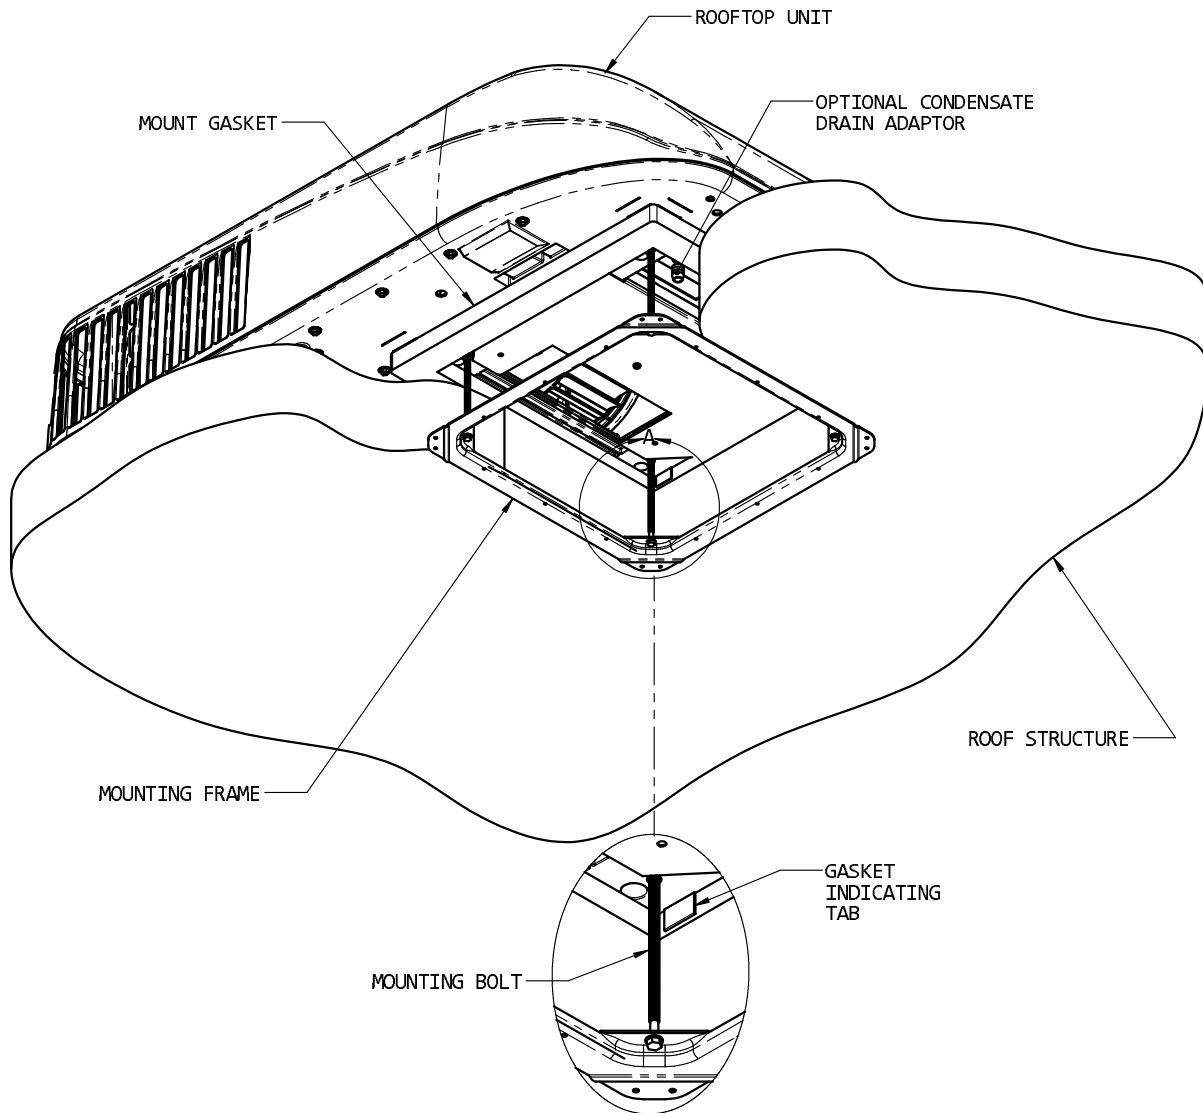

FIGURE 4
If the roof of the vehicle is sloped (not level) such that the roof top heat pump cannot be mounted within the maximum allowable degree deviations, an exterior leveling shim will need to be added to make the roof top heat pump level. A typical leveling shim is shown in Figure 4.
A mounting frame is supplied with the ceiling assembly. Follow the steps below to secure the heat pump to the roof. Refer to Figure 4.
- C. Proper tension has been achieved for each bolt when any portion of each gasket indicating tab has been pulled down even with the roof. See Figure 4. The upper unit has now been properly installed with optimum gasket compression.
- D. If the heat pump is equipped with an optional evaporator condensate pump, a 1/2" I.D. hose must be provided that runs from the 14" square opening, through the vehicle ceiling and down the side wall to allow water to drain under the vehicle. The hose must not be allowed to kink shut while making a bend. Connect the top end of the drain hose to the barbed fitting shown in Figure 4.